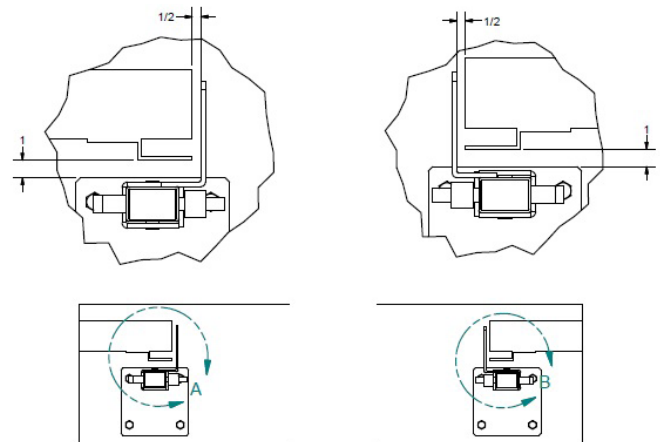
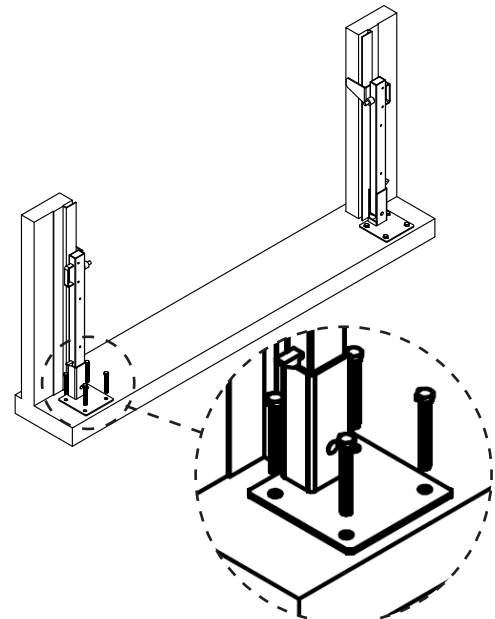

Figure 4
Figure 5
3. With the Door SHIELD in the vertical position, place them on each side of the overhead door in front of the door track so the locking mechanism is at least 1/2" from the inside of the track. See Figure 4.
5. Mark each of the four (4) holes on the mounting plate; repeat on opposite site.
8. Install four (4) minimum 5/8" x 4-1/4" long anchor bolts or equivalent. Torque to manufacturer's specs. See Figure 5.